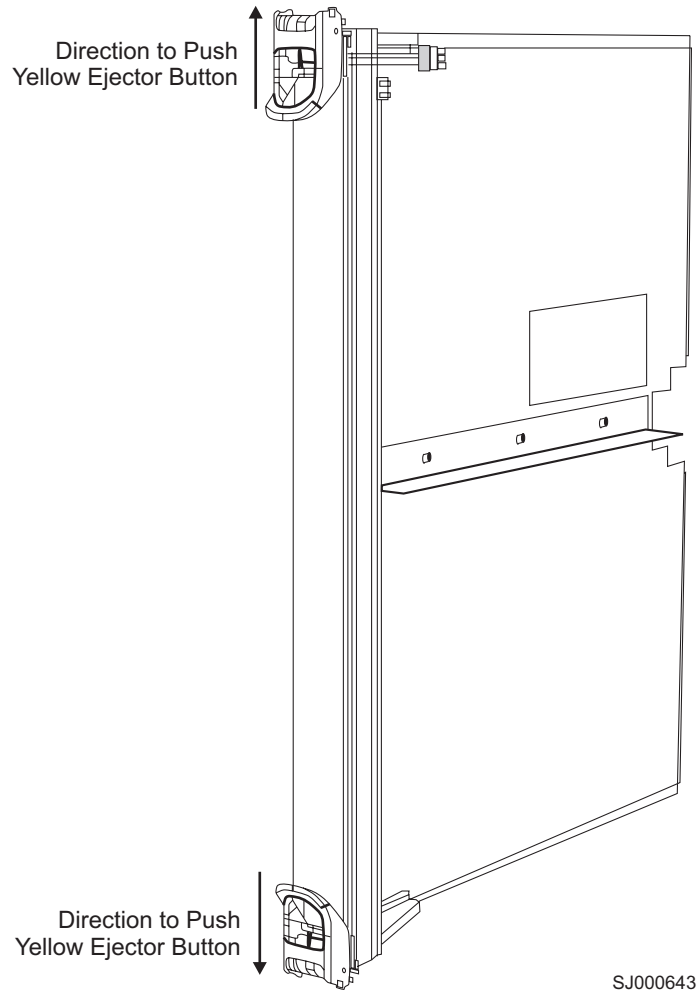

Figure 37. CP card filler panel with two ejectors
1. Push in the yellow tab on each ejector. See Figure 37 on page 69.